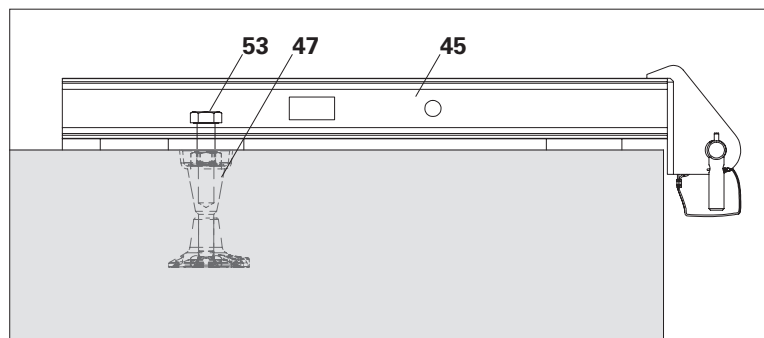

Fig. D1.12a
4. Loosen bolt M24 x 70 (**53**) approx. 15 mm, but do not remove. (Fig. D1.12a)